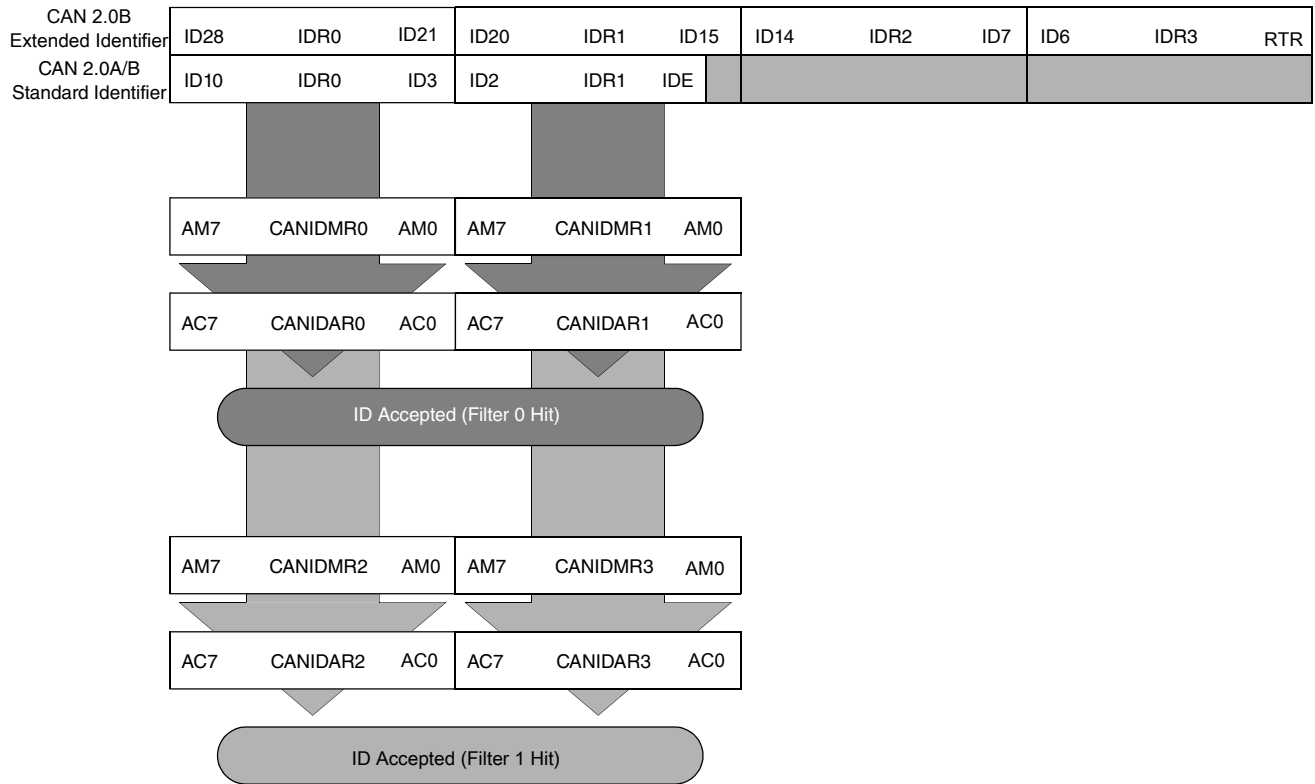

Figure 32-78. 16-bit maskable identifier acceptance filter
- The 11 bits of the standard identifier, the RTR and IDE bits of CAN 2.0A/B messages. Figure 32-78 shows how the first 32-bit filter bank (CANIDAR0-CANIDAR3, CANIDMR0-CANIDMR3) produces filter 0 and 1 hits. Similarly, the second filter bank (CANIDAR4-CANIDAR7, CANIDMR4-CANIDMR7) produces filter 2 and 3 hits.